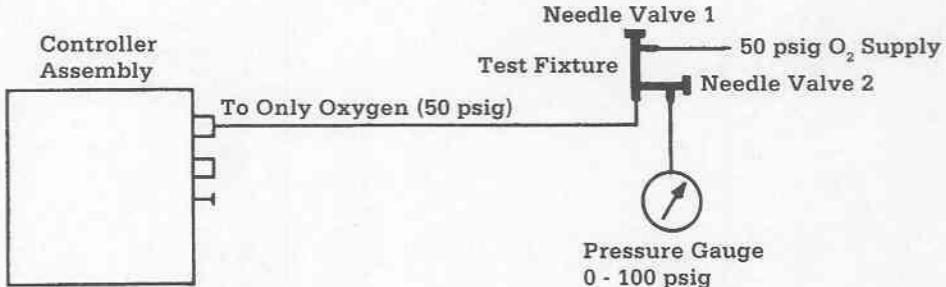

Figure 3-8
1. Connect the test equipment to the controller assembly as shown in Figure 3-8.